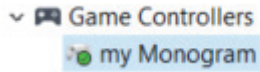

Figure 81 - Game Controllers Node, with a Creative Console Node named **my Monogram** Highlighted
1. In the DashBoard tree, expand the **Game Controllers** node and then double-click the Creative Console's node(Figure 81).